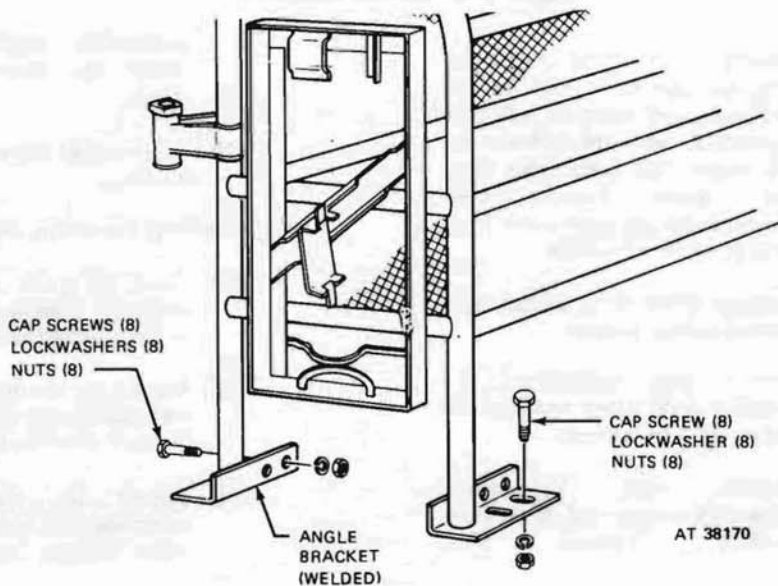

Figure 480. Cab protector installation.
f. *Winch and Cab Protector (Fig. 480).*